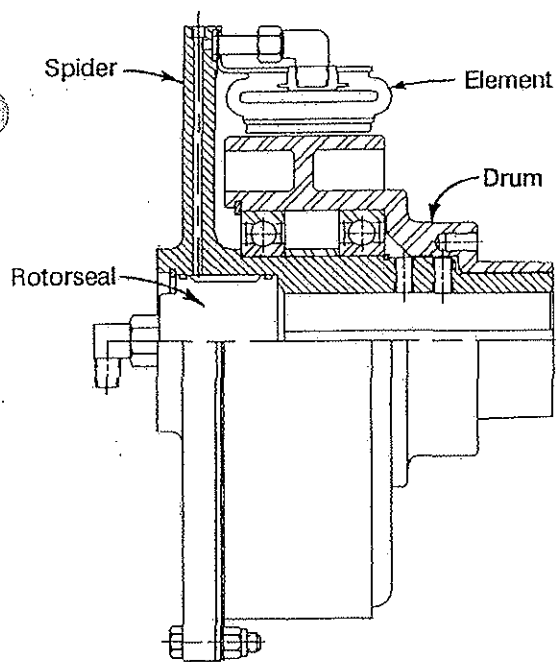

Fig. 5
2.1.4 Airflex offers several economical packaged applications utilizing CB elements. Figure 5 illustrates an Airflex sheave clutch, incorporating a built in rotorseal and sealed ball bearings. A wide range of sheave sizes can be used with this type of package.